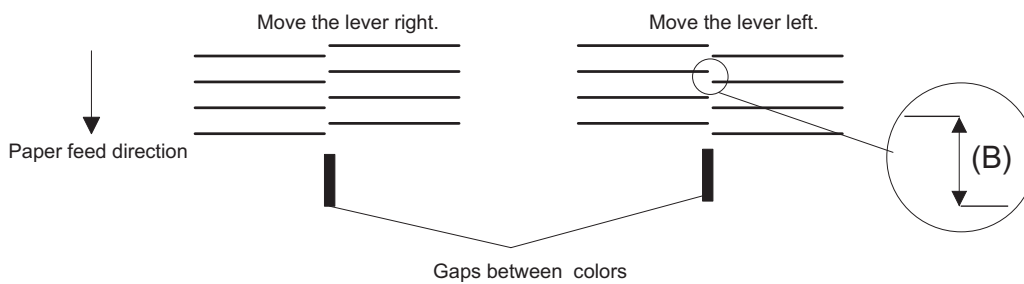

Figure 4-6. Color Head Angular Adjustment
6. Move the angle adjust lever to make the deviation (B) between 2 colors less than  $4/1$  of the line width. (Refer to Figure 4-6.)